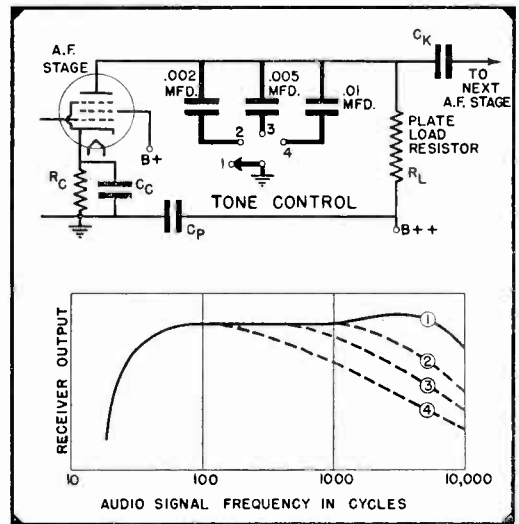

Fig. 3. Four-position tone control using condensers, with the response curve obtained for each position in an average modern receiver.
*Four-Position Tone Control.* By using several different condenser values, with a switch position for each, a choice of tone can be obtained. The example in Fig. 3 uses three condensers